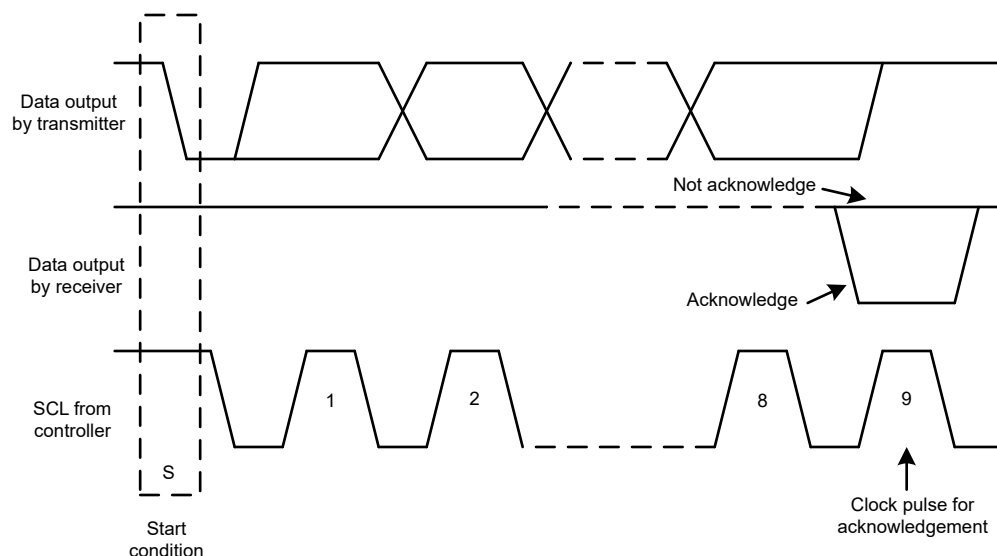
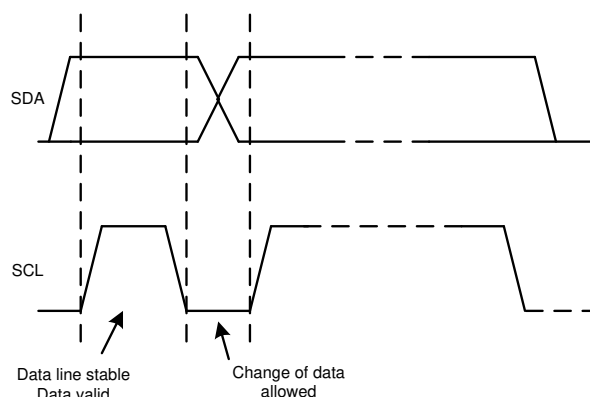

Figure 7-20. Acknowledge and Not Acknowledge on the I²C Bus
Figure 7-22. Bit Transfer on the I²C Bus
Other than specific timing signals, the I²C interface works with serial bytes. At the end of each byte, a ninth clock cycle generates and detects an acknowledge signal. An acknowledge is when the SDA line is pulled low during the high period of the ninth clock cycle. A not-acknowledge is when the SDA line is left high during the high period of the ninth clock cycle, as shown in Figure 7-20.
2. The controller then generates the SCL pulses, and transmits the 7-bit address and the read/write direction bit ($R/\overline{W}$) on the SDA line. During all transmissions, the controller makes sure that data are valid. A valid data condition requires the SDA line to be stable during the entire high period of the clock pulse, as shown in Figure 7-22. All devices recognize the address sent by the controller and compare the address to the respective internal fixed address. Only the target device with a matching address generates an acknowledge by pulling the SDA line low during the entire high period of the 9th SCL cycle, as shown in Figure 7-20. When the controller detects this acknowledge, the communication link with a target has been established.